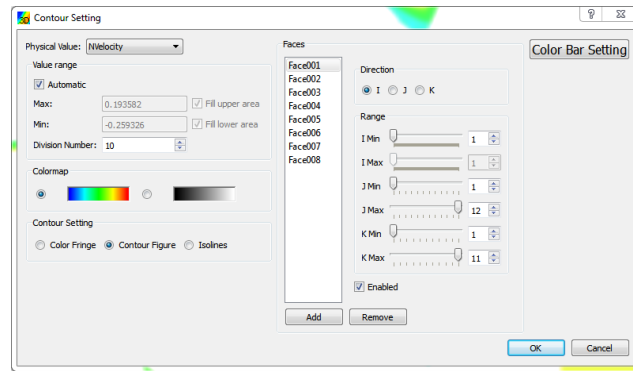

Figure 3. Contour Setting dialog
The solution can be animated using both the 2D and 3D post-processor views (Figure 3) as follows:
- To animate or step through individual time steps of the 2D solution and create the images at time 0 and 86400 seconds in panels A and B of Figure 3 follow the steps below:
- To animate or step through individual time steps of the 3D solution and create the images at time 0 and 86400 seconds in panels B and C of Figure 3 follow the steps below: